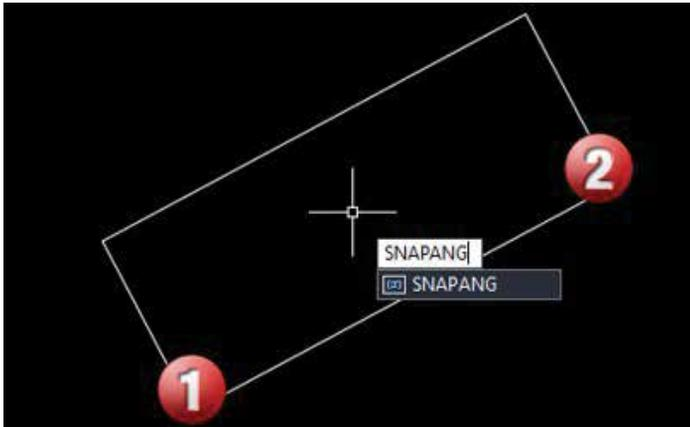

Figure 3
Have you ever wanted to use ortho and draw at a specific angle? You can do just that. You can rotate your cursor to draw with ortho on at a specific angle. Type SNAPANG at the command prompt and use your object snap to select the start angle (1), then the end angle (2), and your cursor will rotate to that angle, as shown in Figure 3. Use ORTHOMODE to create parallel lines or add a macro to your tool palette to perform with one click.